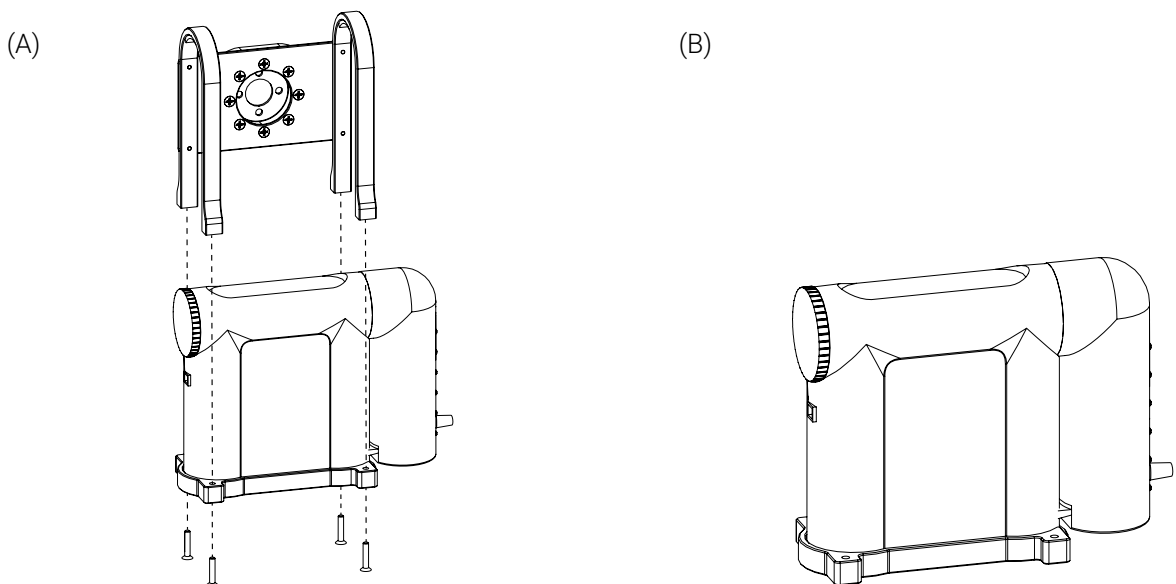
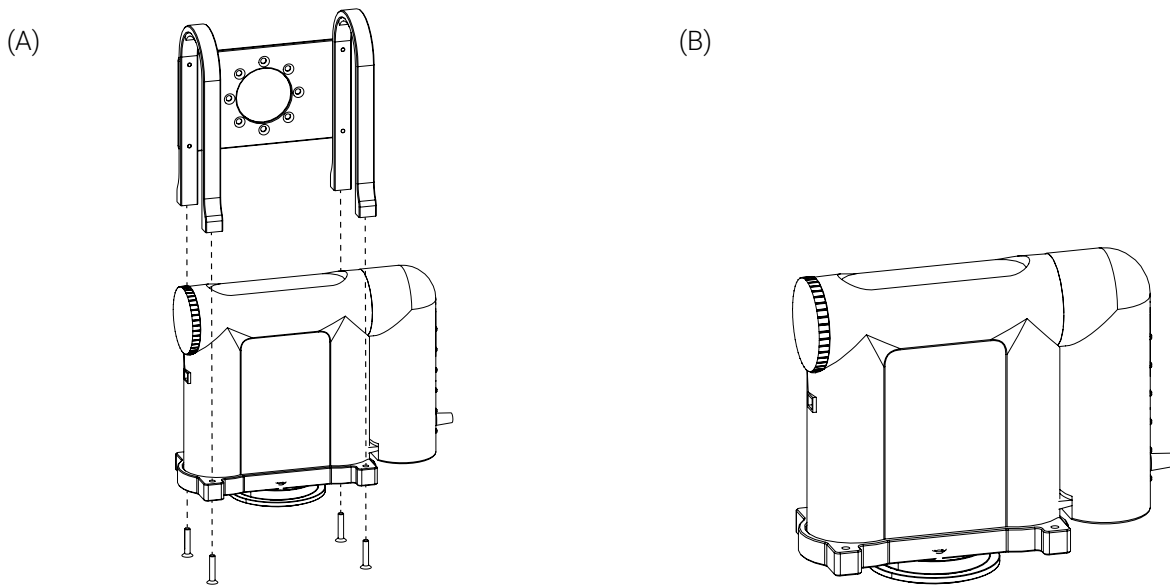

Figure 19: Removal of the retaining frame from the bottom plate
Figure 20: Removal of the retaining frame from the Bottom plate with a micro disc
1. Remove the four (4) screws located under the support bracket using a Phillips-head screwdriver, lift and remove the retaining frame (Figure 19 and Figure 20), then set it aside.